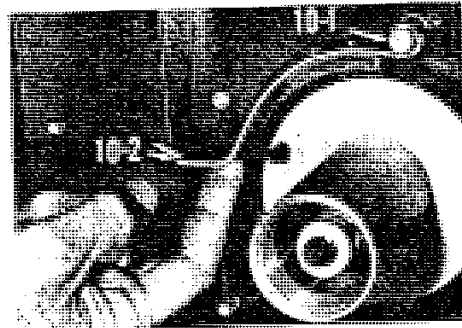

Figure 10
5. Using 1/4" Hex Key, loosen wire spool spindle drag adjustment **Fig. 8-1** (After completion of these tests readjust the spindle drag adjustment so that when the brake arm **Fig. 10** is raised the wire spool does not tend to overrun when you stop pulling wire from the spool. **DO NOT OVERTIGHTEN.**)